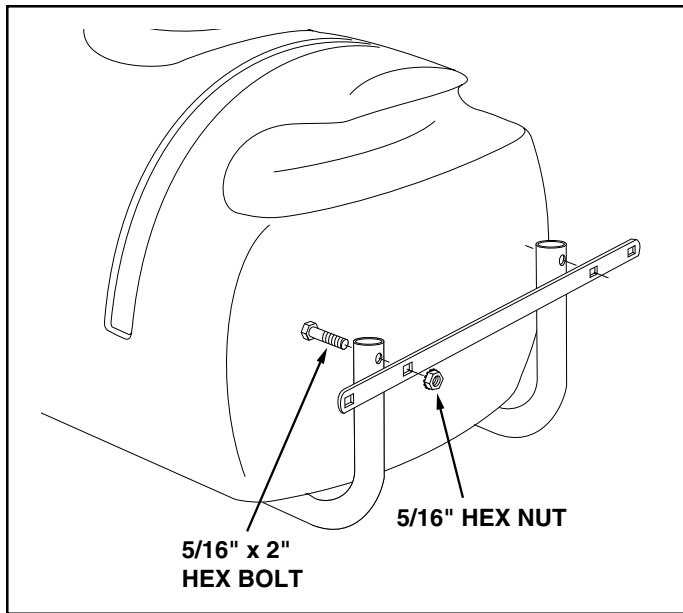

FIGURE 5
10. Assemble the boom mount bracket to the rear of the frame tubes using two 5/16" x 2" hex bolts and 5/16" hex nuts. See figure 5.